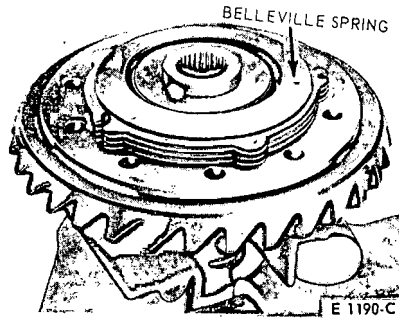

FIG. 26—Belleville Spring Installation
3. Center the Belleville spring on the clutch pack (spring concave-side facing downward on the pack) to prevent trapping the spring between the left and right hand case in an eccentric position (Fig. 26). **Improper location of the Belleville spring will cause extremely high torque and differential chatter. Be sure the slots in**